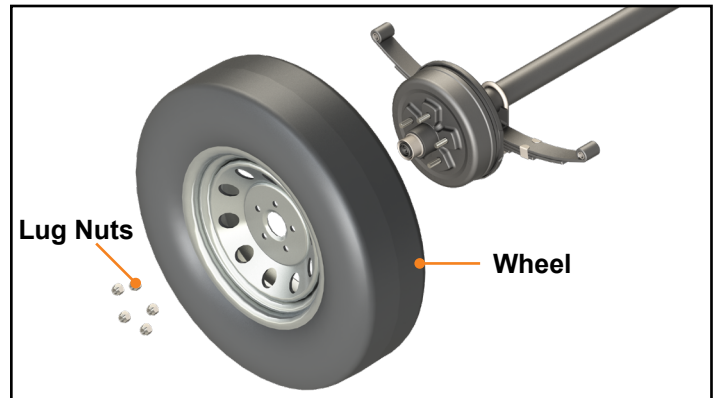

Fig.2
3. Remove tires and wheels -curbside and roadside- from the axle (**Fig. 2**) with the affected leaf spring.
4. Set wheel and lug nuts (**Fig. 2**) aside for later installation.
19. Reinstall previously removed tires, wheels and lug nuts (steps 3 and 4) onto the axle (**Fig. 2**).